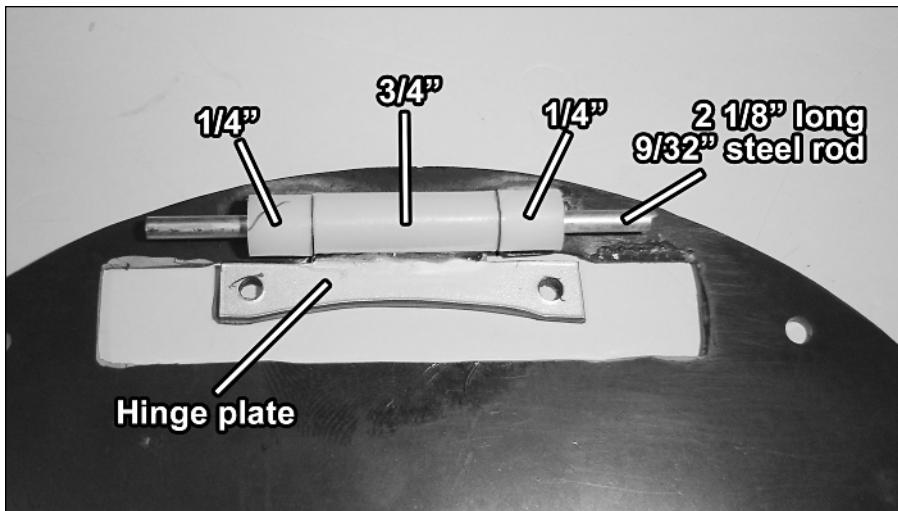

FIGURE 13-9: The nylon spacers, steel rod, hinge plate, and rear screen plate.
6. The rectangle-shaped hole in the rear screen plate will contain the hinge. Place the hinge plate in it, and superglue a 3/4”-long, 1/4”-outer diameter nylon spacer on the top portion of the hinge plate (as shown in Figure 13-9).
8. Use your hacksaw to cut a 2-1/8” long piece of the 3/32”-thick steel rod. Place this through the three spacers. You now have a hinge. Tilt the hinge plate back and forth. If it hits or snags in certain places, use your X-Acto knife to shave plastic off it until it tilts smoothly. The completed hinge should appear as shown in Figure 13-9.